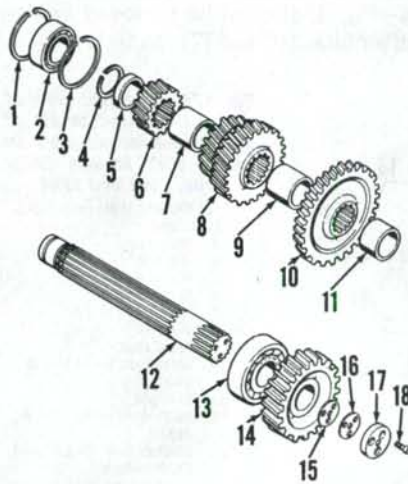

Fig. 178—Exploded view of intermediate shaft of gear transmission used on Model 2090 and 2290 power shift tractors.
On Models 2090 and 2290, refer to Fig. 178 and remove the three Allen head bolts (18), end plate (17) and shims (15
On all models, clean and inspect all parts for excessive wear or other damage and renew as necessary. Check bearings for free smooth action and renew any bearing having a loose fit or rough action. Heat front bearing (13—Fig. 178 or 14—Fig. 179) to a
temperature of 250° F (120° C) for ease of assembly. Reinstall shaft, gears and spacers by reversing removal procedures. On Models 2090 and 2290, secure rear of shaft with snap ring (4—Fig. 178). On Models 2094 and 2294, use Loctite 271 on threads of Allen head screws (1—Fig. 179) and install plate (2). Tighten screws to a torque of 40 ft.-lbs. (54.2 N·m). Install input gear on all models. On models equipped with shims and front plate, install plate without shims and tighten Allen screws to a torque of 40 ft.-lbs. (54.2 N·m). Remove Allen screws and front plate. Using a depth gage, measure distance from front face of input gear to end of intermediate shaft. This measurement plus 0.002 inch (0.05 mm) will be correct shim pack thickness to be installed. Shims are available in thicknesses of 0.005 and 0.007 inch (0.127 and 0.178 mm). Install front plate with determined shim pack and using Loctite 271 on threads, tighten Allen screws to a torque of 40 ft.-lbs. (54.2 N·m). On late Model 2094 and 2294, tighten nut (16—Fig. 179) to a torque of 200 ft.-lbs. (271 N·m), then stake flange of nut to slot in shaft.